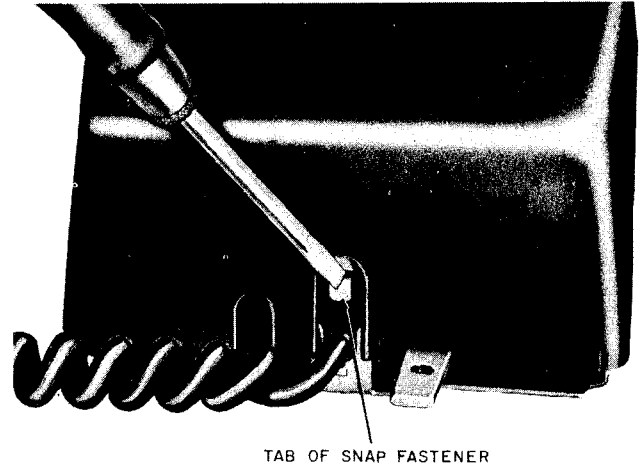
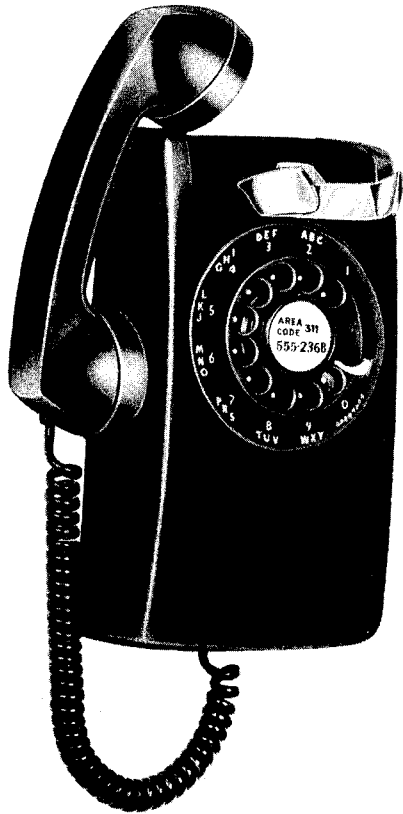

Fig. 10 — Wall Telephone Set Housing Removal
Fig. 9 — 554- or 556-Type Telephone Set, Handset Rest Position
- 554- and 556-type sets — designed as handset hanger (Fig. 9).
(1) Removal
- Push inward on tab of snap fastener (Fig. 10) located in handset cord slot.
- Lift lower part of housing outward and upward, releasing snap fastener, and disengaging latch opening assembly (Fig. 10 and 11).
(2) Replacement